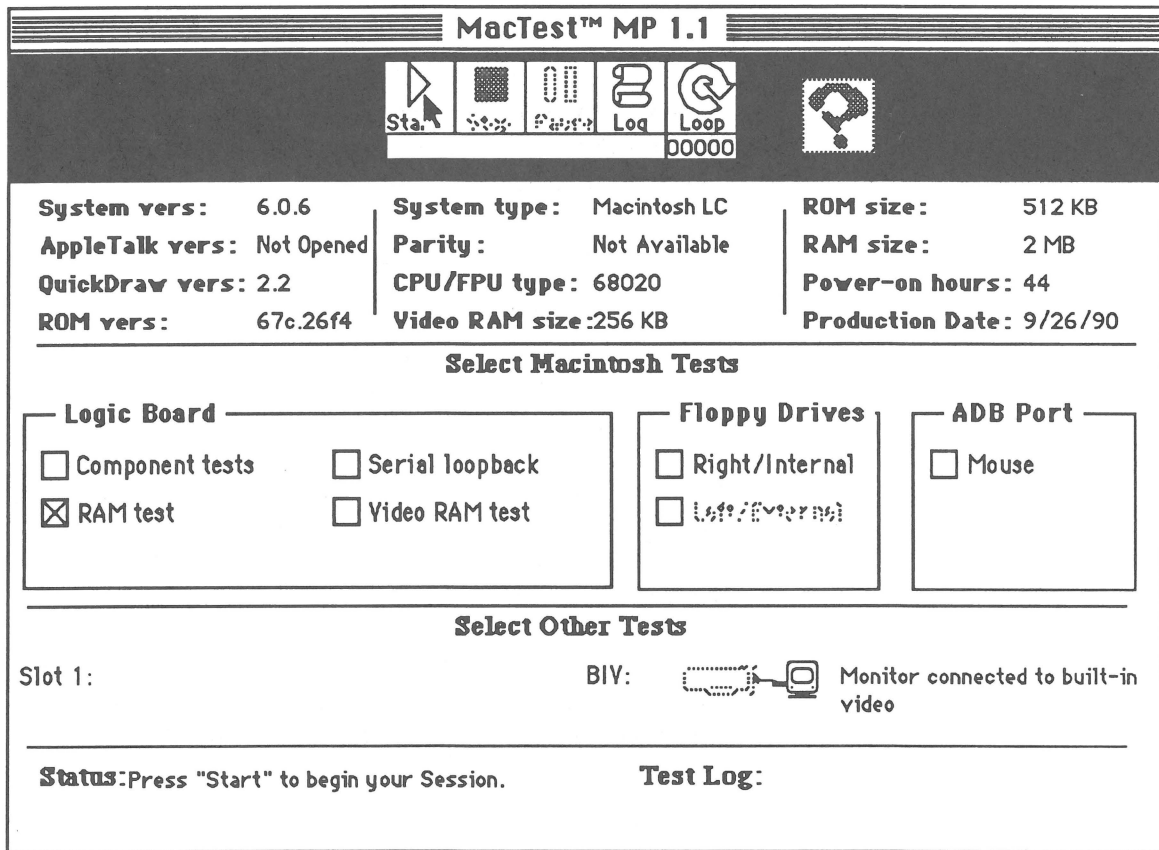

Figure 3-5 MacTest MP Main Window on the Macintosh LC
4. From the main window shown in **Figure 3-5**, deselect any default tests that you do not want to run. Clicking in a box marked with an "x" deselects that test.
5. **Figure 3-5.** To test the video RAM on the Macintosh LC, make sure **Video RAM Test** is selected. If the **Video RAM Test** selection box is blank, click on the box to select it.
6. **Figure 3-5** To display the monitor adjustment test patterns, first click on the monitor icon in the main window. The monitor icon is highlighted to indicate its selection.
7. **Figure 3-5.** Click the Start icon at the top of the main window. You will encounter one or both of these scenarios: